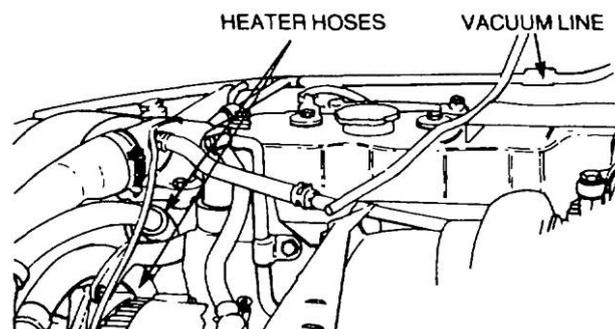

Figure 18 Removal of the Heater Hoses and Vacuum Line
- i.** Remove the heater hoses at the thermostat housing, water pump and at the heater inlet and outlet pipes (Figure 18). Plug the thermostat housing, water pump and inlet and outlet pipes with suitable plastic plugs.
- m.** Disconnect the differential lock vacuum line from the alternator to brake servo vacuum line (Figure 18). Remove the vacuum line from the brake servo, the rear engine lifting bracket and the vacuum pump on the alternator. Plug the apertures with suitable plastic plugs.